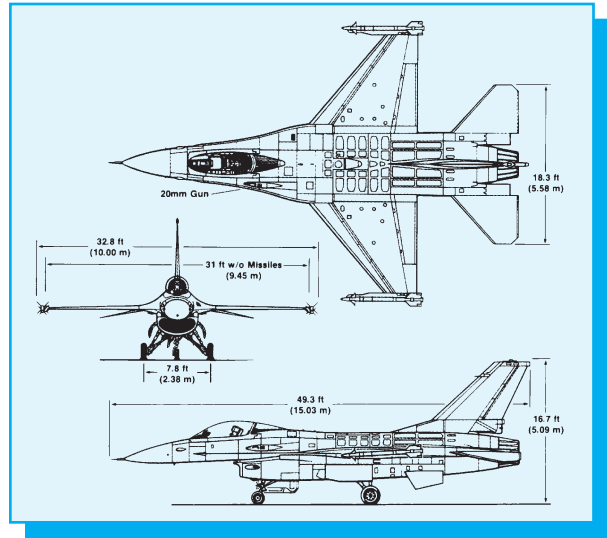

Figure I-19
1. *Multiview drawings* are several views of the object drawn using orthographic projection. The complete shape of the item with all its details and dimensions must be shown in the drawing (**Fig. I-19**).